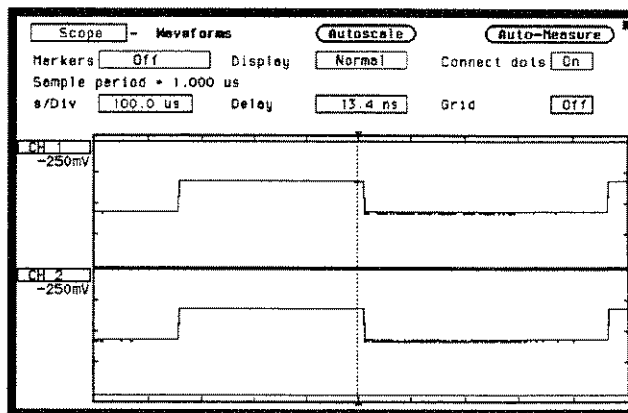

Figure 25-7. One Full Cycle Waveform
1. From the Waveform menu, select s/Div and change s/Div field to 100 μ s to display only one full cycle of the waveform. See figure 25-7.
3. Be sure the displayed waveform is at least one full cycle. If not, touch TRIG key, then select s/Div. Change s/Div field to 100 μ s to display only one full cycle of the waveform. See figure 25-7.